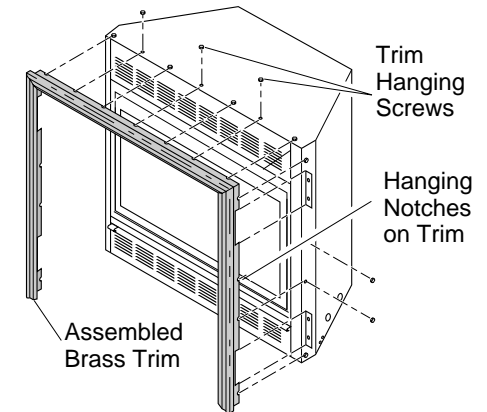

Figure 38 - Attaching Brass Trim to Fireplace
8. Tighten trim hanging screws (#10 x 6.25 shoulder) into holes in cabinets. Place the assembled trim onto fireplace cabinet. Align hanging notches on trim with hanging screws on side of fireplace (see Figure 38). Push trim firmly into place, sliding hanging notches over hanging screws.